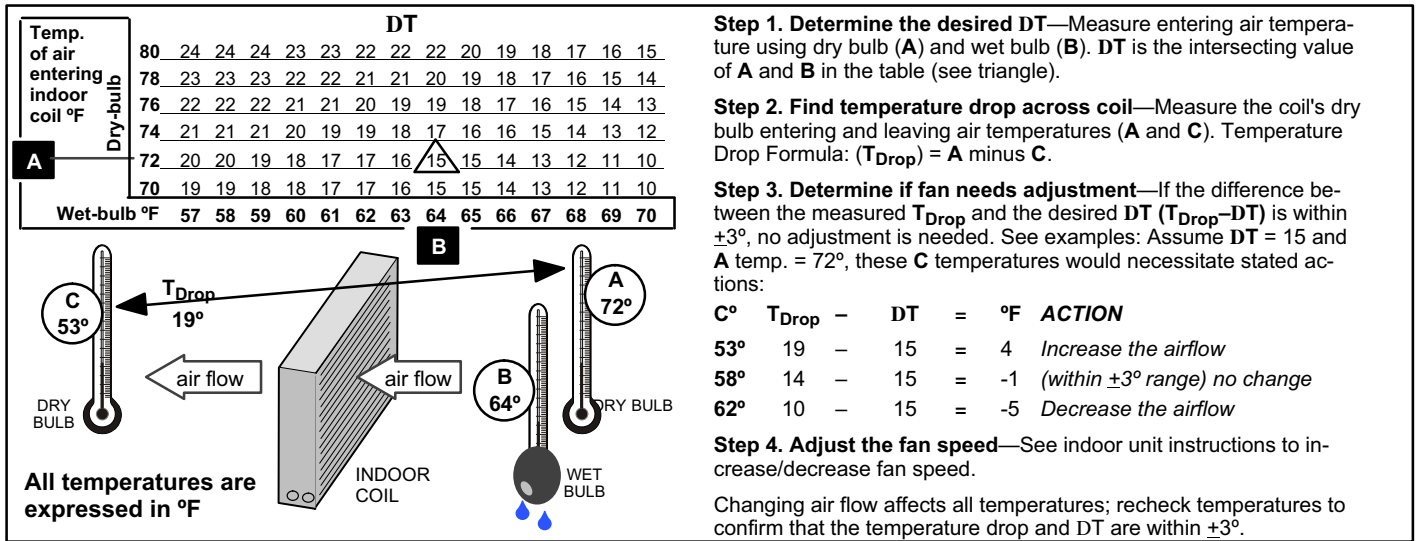

Figure 23. Checking Indoor Airflow over Evaporator Coil using Delta-T Chart
Check airflow using the Delta-T (DT) process using the illustration in figure 23.